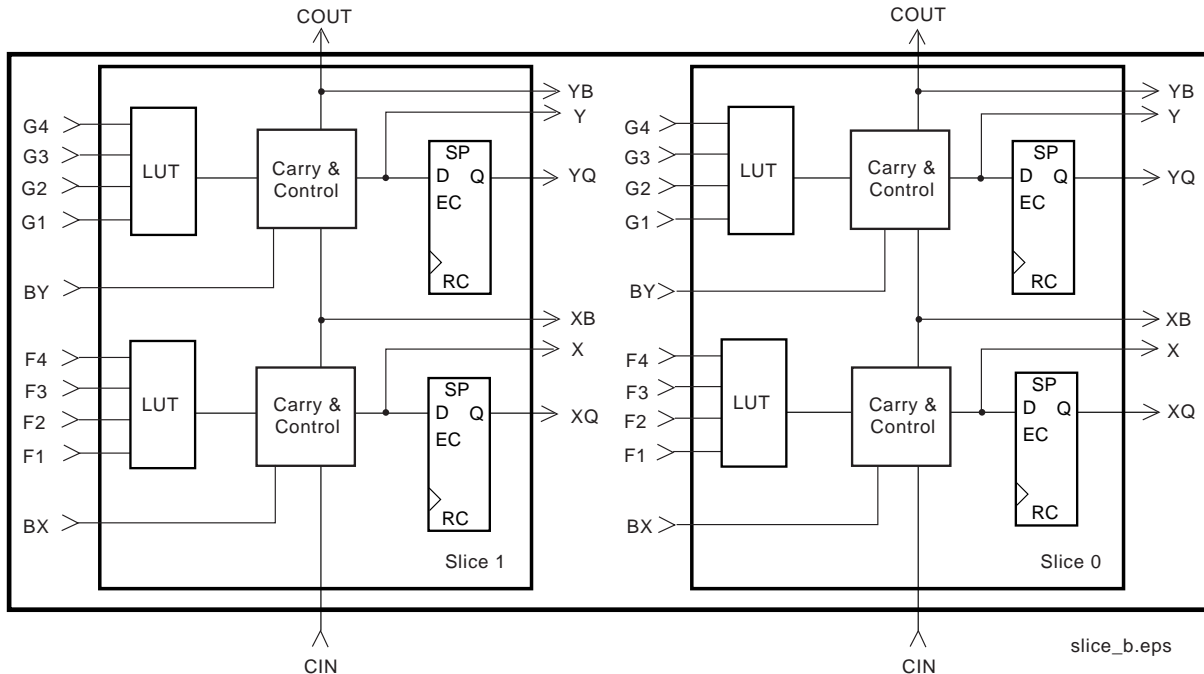
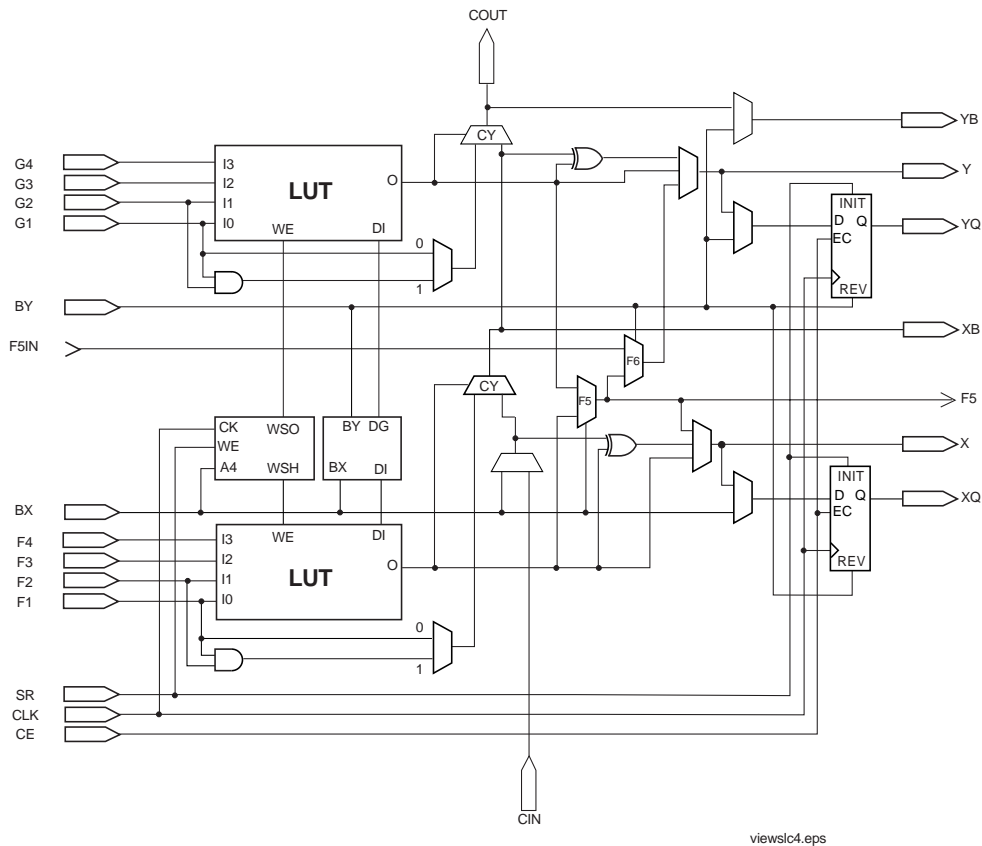

Figure 4: 2-slice Virtex CLB
Figure 5: Detailed View of Virtex Slice
The basic building block of the Virtex CLB is the logic cell (LC). An LC includes a 4-input function generator, carry logic, and a storage element. The output from the function generator in each LC drives both the CLB output and the D input of the flip-flop. Each Virtex CLB contains four LCs, organized in two similar slices, as shown in Figure 4. Figure 5 shows a more detailed view of a single slice.